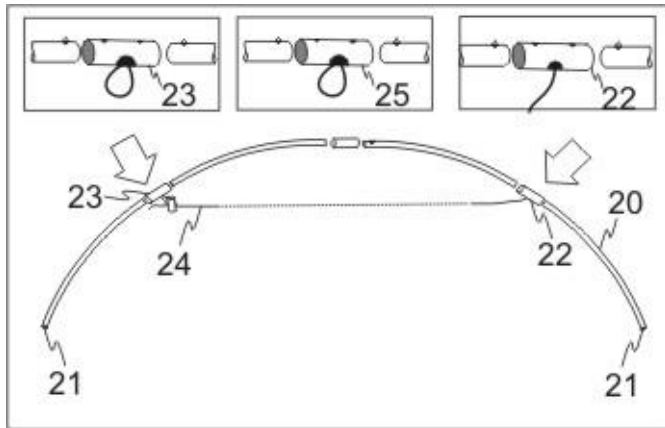

Abb. 4.1
Step 4: Putting arches together (fig. 4.1)
An arch consists of four arch sections (20) that are put together by connecting aluminium tubes (22), (23) and (25). Two arch sections have a black stopper (21) at the end (fig. 4.1).
- Put the arch sections in form of an arch on the ground according fig. 4.1 so, that the buttons are pointing upwards. Notice that the starting and ending arch section have at their ends a black stopper.
- A complete arch consist of one four arch sections (20), one aluminium connecting tube (22), one aluminium connecting tube (23) and one aluminium connecting tube (25) (Abb. 4.1).